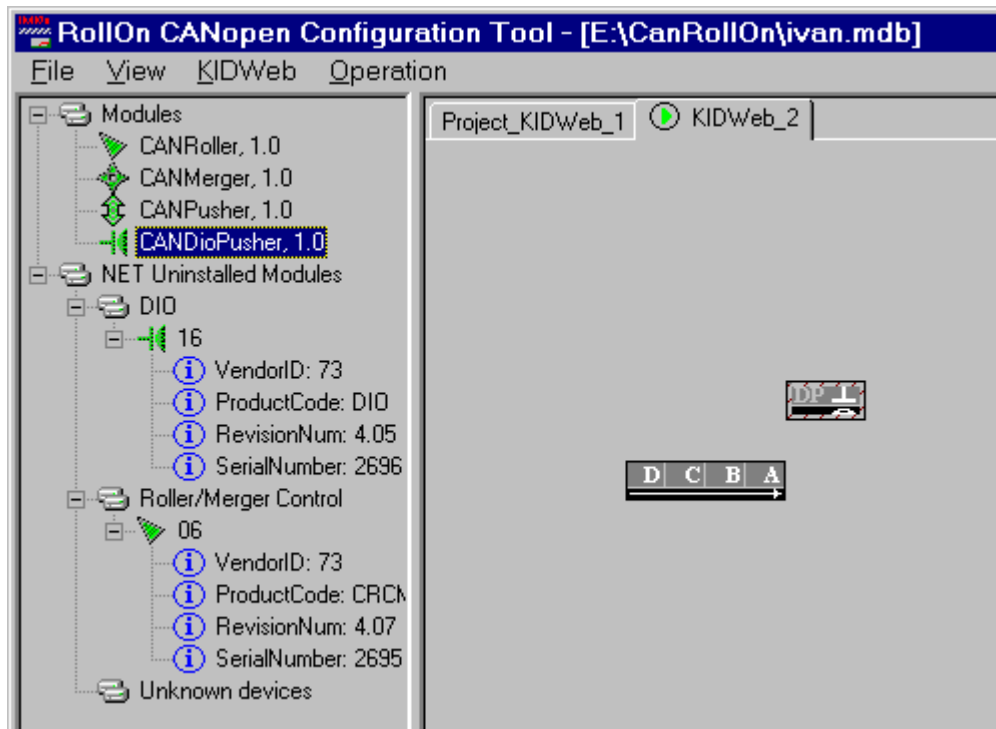

Fig. 5.8
- By using the above Node ID list the Commissioning Officer accomplishes the identification of each project module with the respective uninstalled module from the sub-tree (consider the very simplified example shown in Fig. 5.8).